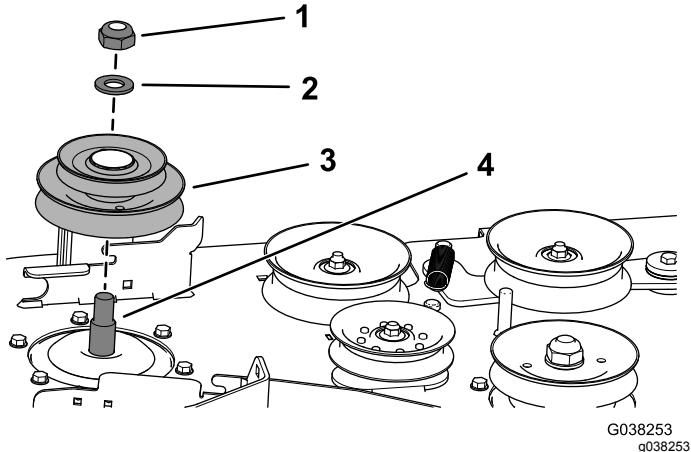

Figure 11
- Use the locknut (3/4 inch) and washer to secure the new double pulley onto the right spindle shaft (Figure 11).